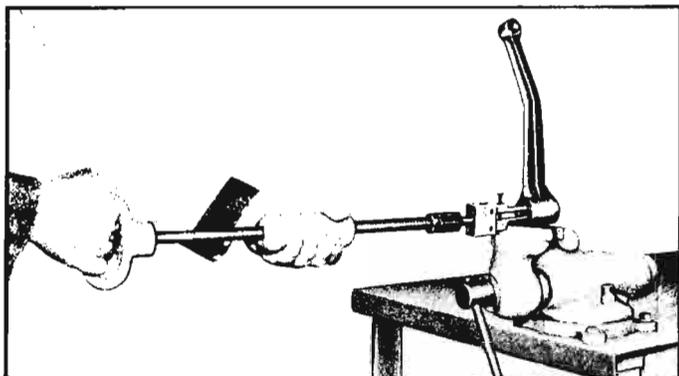

Fig. 5-36—Removing Bushings with J-5822 and J-2619
2. Remove old bushings with Tools J-5822 and J-2619 (Fig. 5-36).